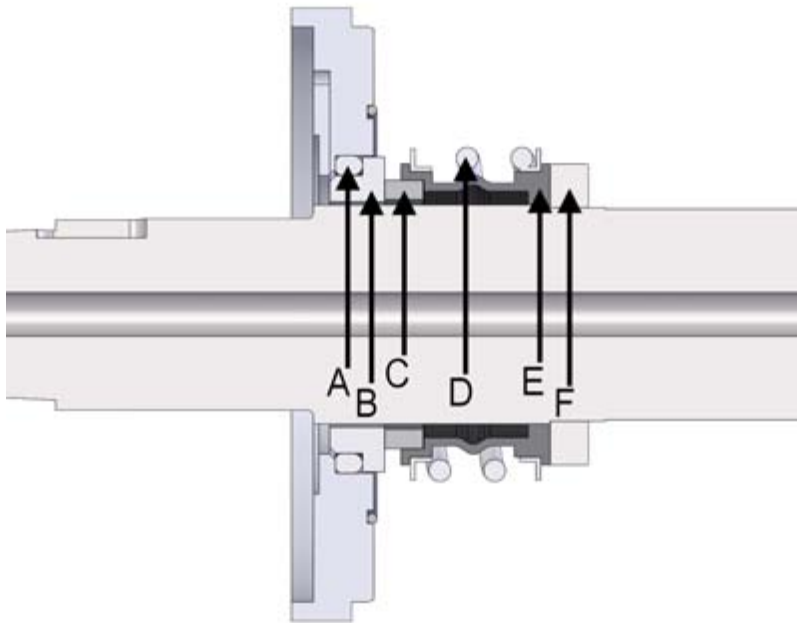

Figure 9. Mechanical seal
The mechanical seal consists of several parts (figure 9).
Support ring F (figure 9) is attached to the shaft with a crimped joint. It can be removed by heating, for example. Parts A and B (figure 9) are removed by pushing them from the bearing side.
- 1.1. Heat the sealing support ring (figure 9, point F) until it slips into its place unobstructed.
- 1.4. Push the rotating part of the mechanical seal (figure 9, points C, D, and E) into their places against the support ring.
2. Push the static part of the mechanical seal into the bearing housing spacer together with the seal (figure 9, points A and B).